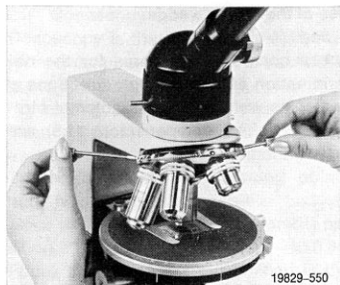

Fig. 4
c) Insert both centring keys (Fig.4) in the apertures above the objective used. Move the microscopic image by turning the centring keys so that the object area is precisely in the middle (position B) of the line connecting the crosslines M and the maximum deviation position A.
d) Move the specimen manually or with the aid of the attachable mechanical stage until the prominent area is in the centre of the crosslines (M).